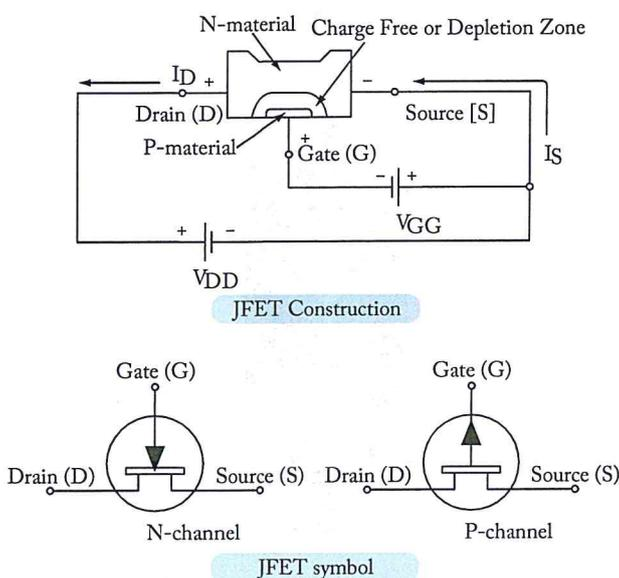

Figure 1-58. General construction and schematic symbol of the MOSFET.
*Figure 1-58* shows the basic construction of the JFET and the schematic symbol. In this figure, it can be seen that the drain (D) and source (S) are connected to an N-type material, and the gate (G) is connected to the P-type material. With gate voltage  $V_{GG}$  set to 0 volts and drain voltage  $V_{DD}$  set to some positive voltage, a current will flow between the source and the drain, through a narrow band of N-material. If then,  $V_{GG}$  is adjusted to some negative voltage, the PN junction will be reverse biased, and a depletion zone (no charge carriers) will be established at the PN junction. By reducing the region